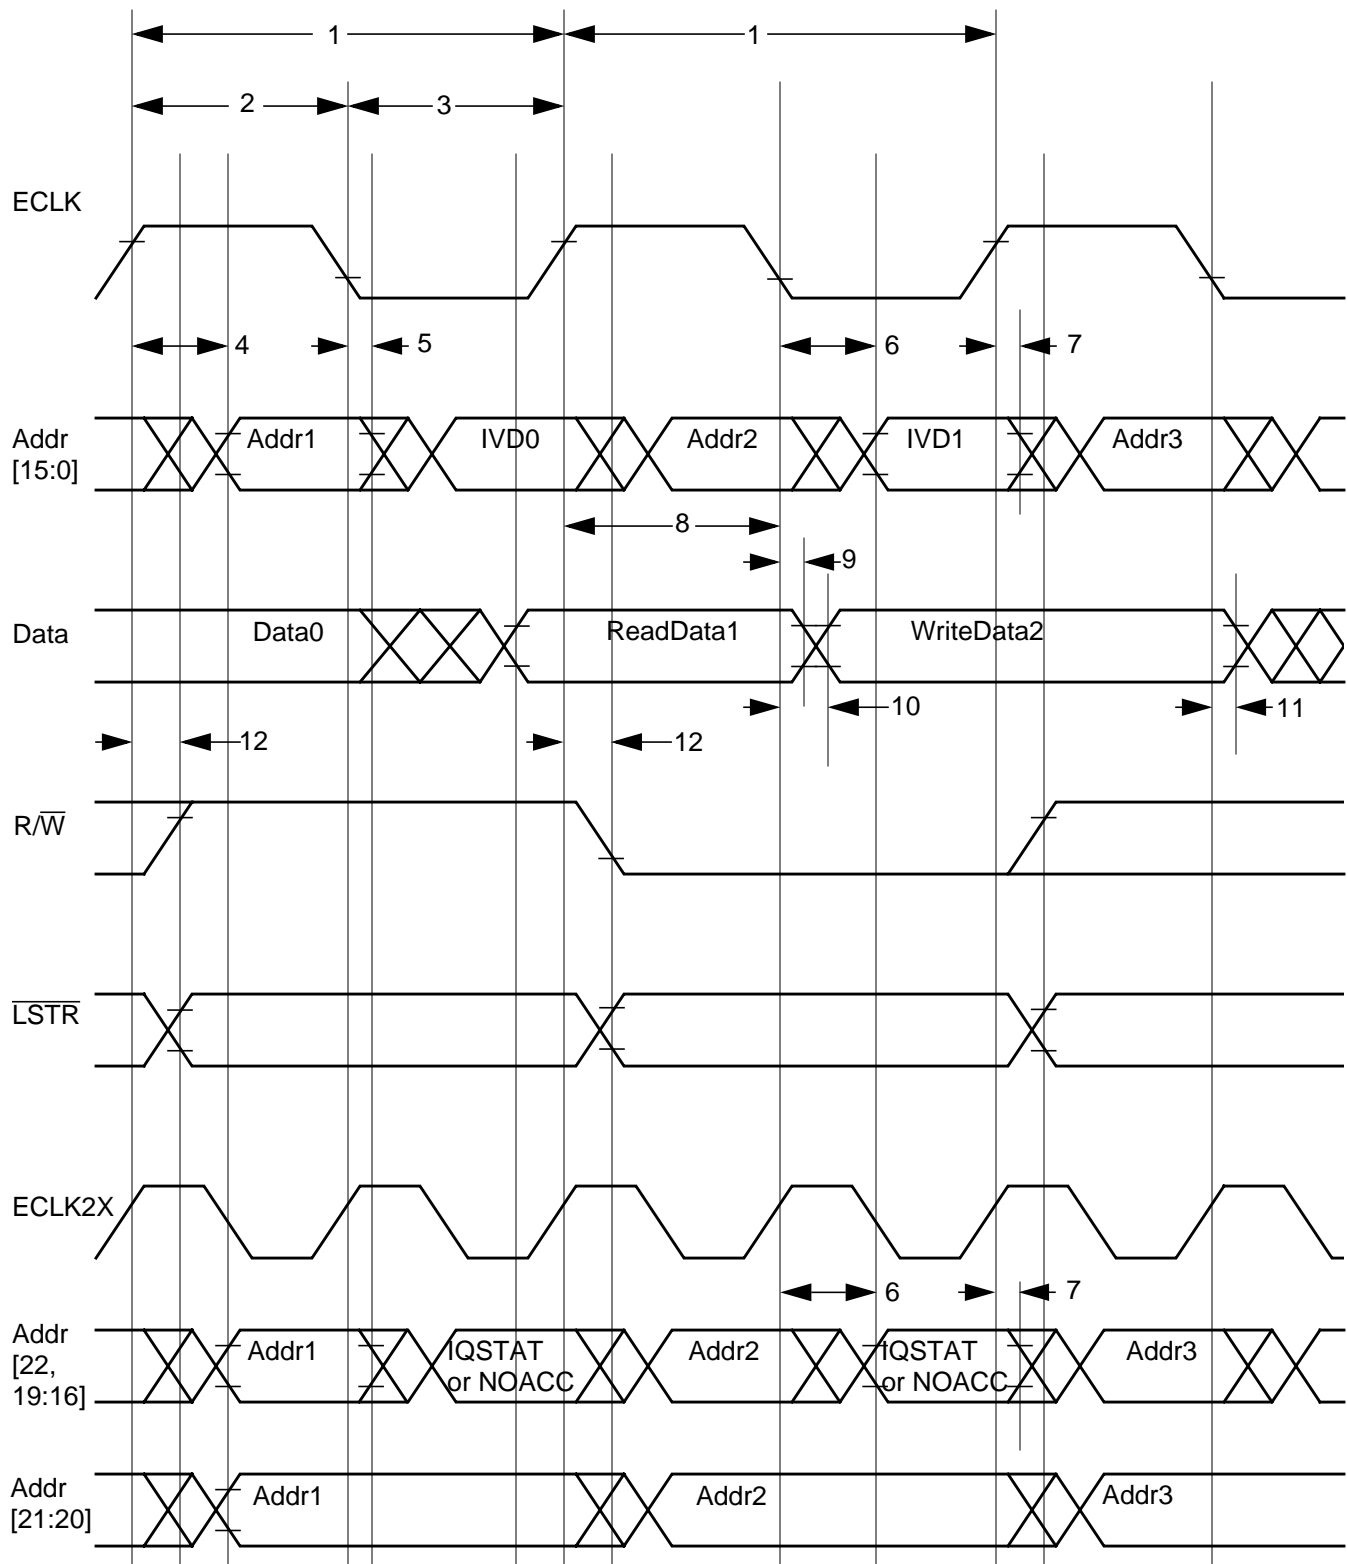
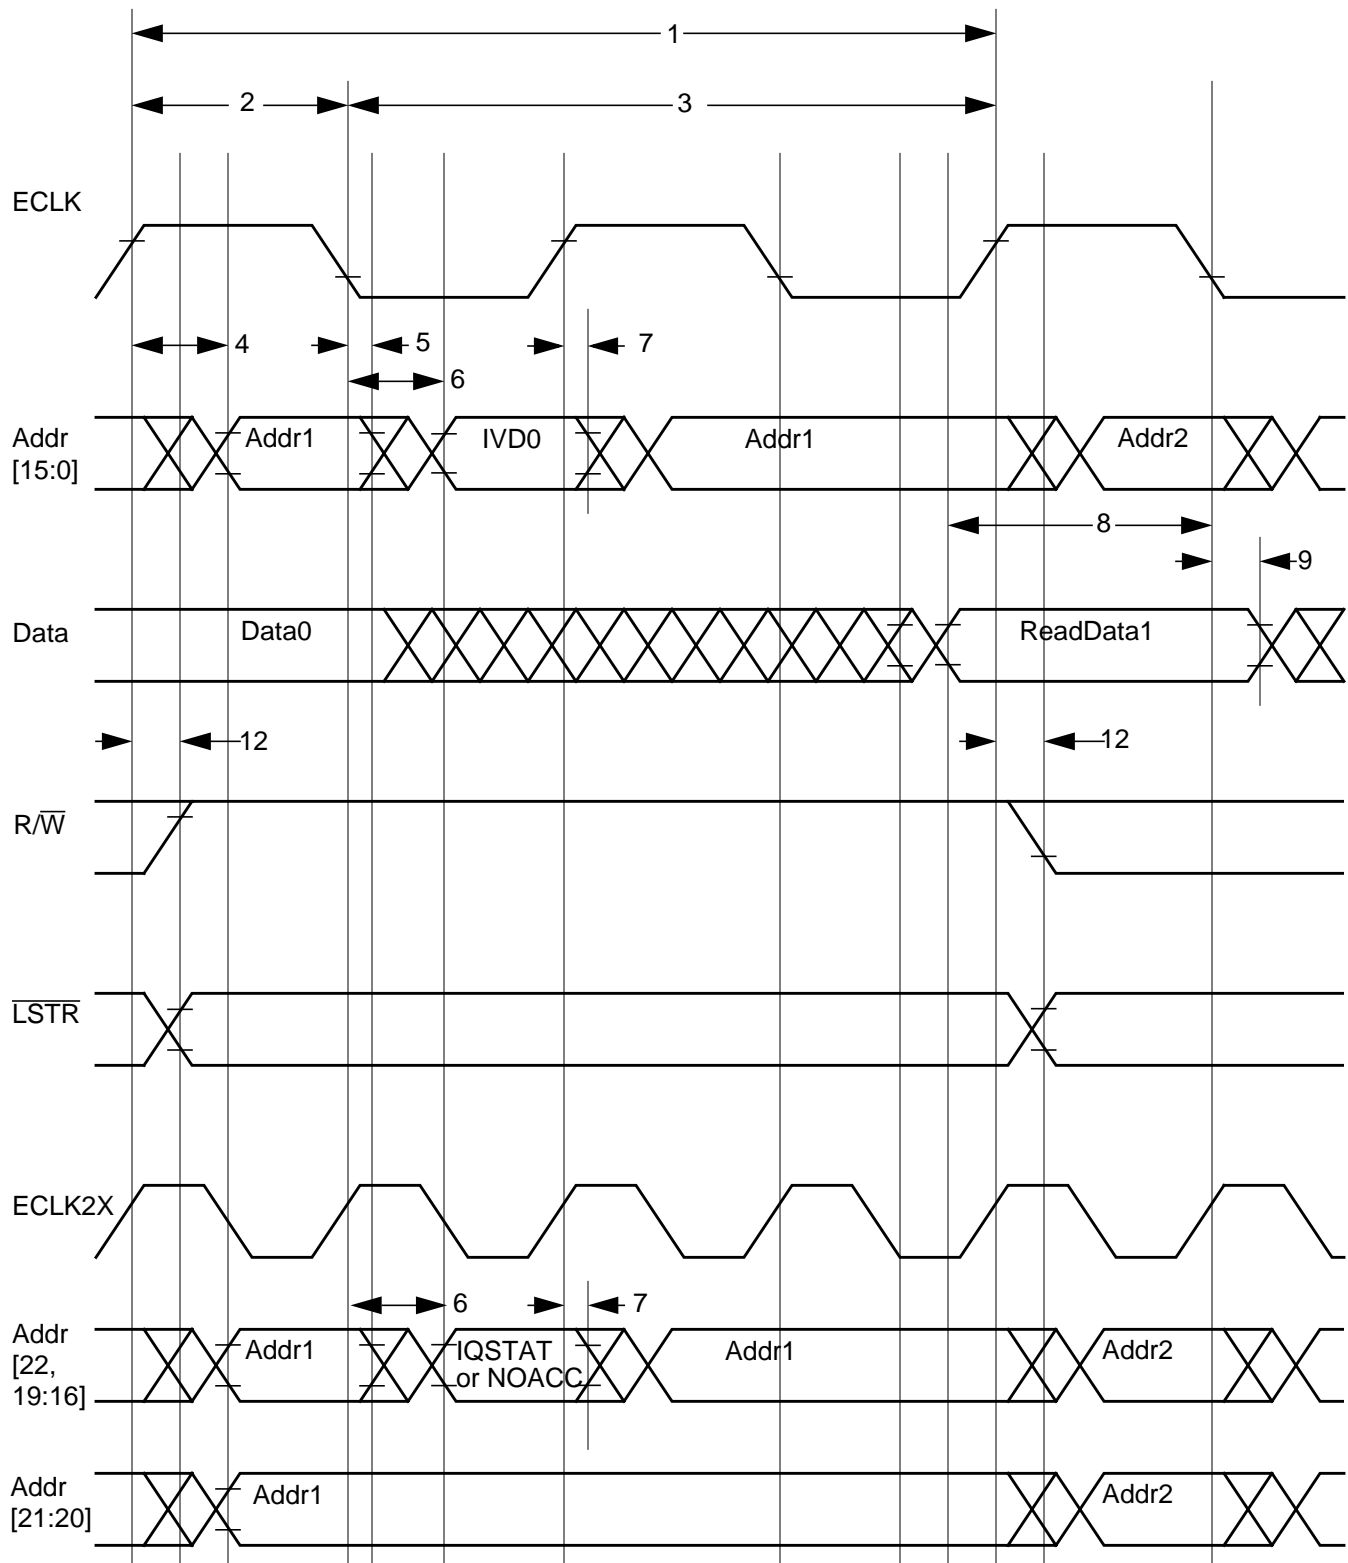
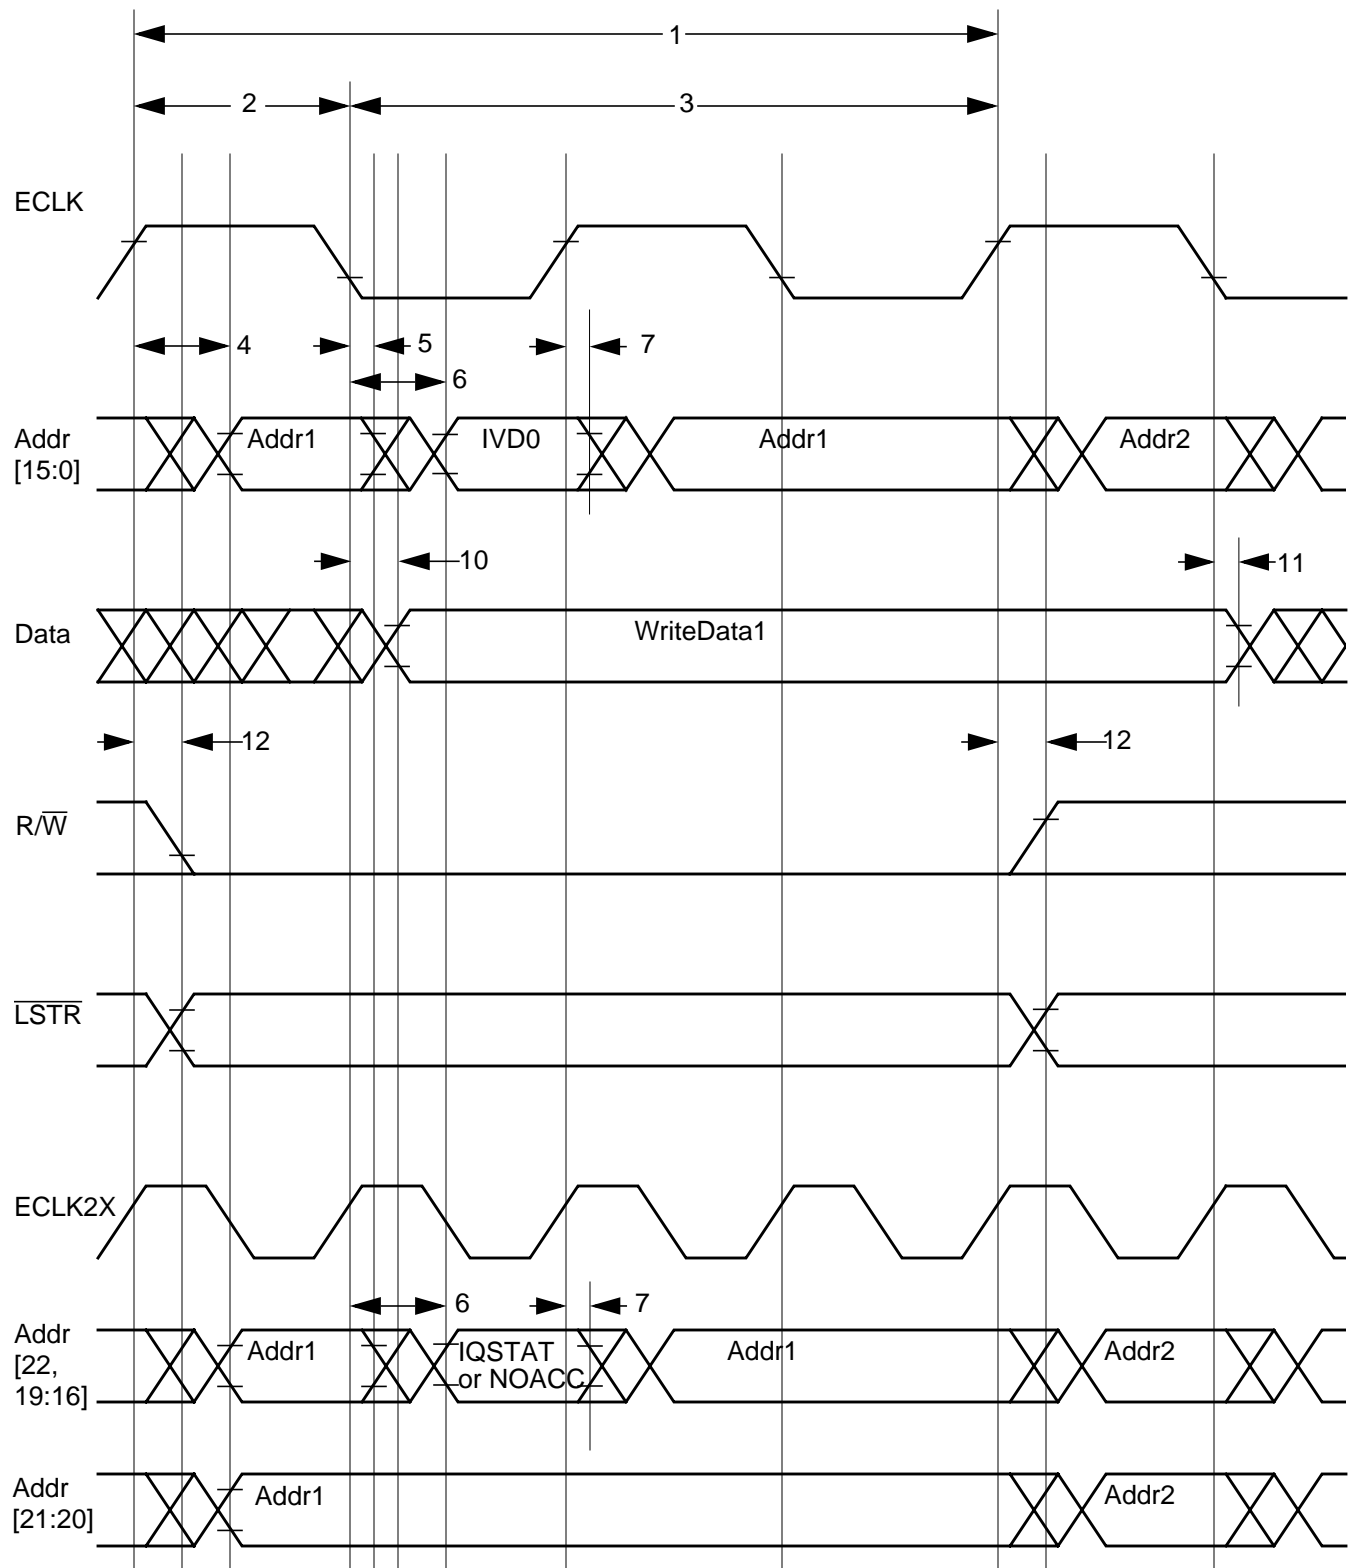

Figure 5-4 Timing Diagram: Emulation Single-Chip Mode - Read Followed by Write
Figure 5-5 Timing Diagram: Emulation Expanded Mode - Read with One Cycle Stretch
Figure 5-6 Timing Diagram: Emulation Expanded Mode - Write with One Cycle Stretch
operation with a logic analyzer should be reasonable. The timing diagram for this operation is in **Figure 5-4** and the associated timing numbers are in **Table 5-3**.
- The timing for accesses to PRU registers, which take 2 cycles to complete, is the same as shown in **Figure 5-5** and **Figure 5-6** which show the timing for a read and write, respectively, with 1 cycle of stretch.
Designed to allow emulation of normal expanded mode, emulation expanded mode makes use of the earliest timing signals to allow external port replacement, external generation of selects and timing signals, and possible external emulation memory. If no stretch is imposed on the bus, the timing is the same as Emulation Single Chip shown in Figure 5-4 and Table 5-3. The timing diagram for this operation when stretch is imposed is in Figure 5-5 and Figure 5-6. These timing diagrams show a stretch of one cycle for read and write. The associated timing numbers are in Table 5-4.